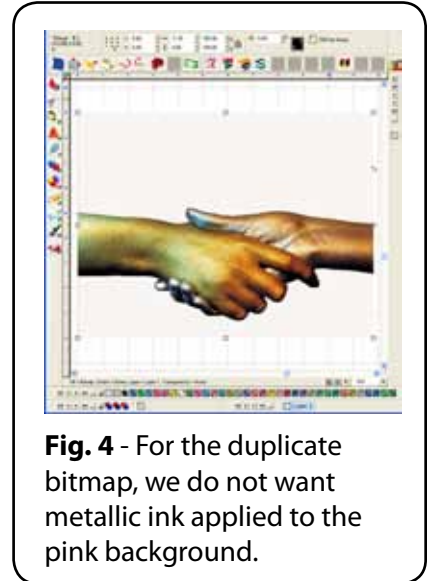

Fig. 4 - For the duplicate bitmap, we do not want metallic ink applied to the pink background.
7. Notice that the bitmap background is a faint pink, which (for the duplicate) needs to be removed (Fig. 4).